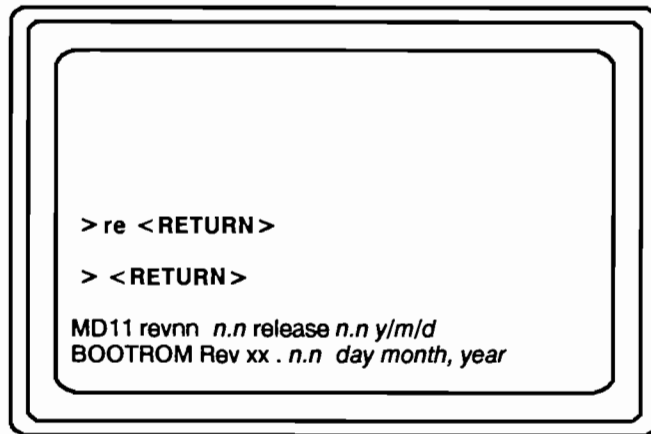

Figure 8-18. Resetting the MD
1. Reset the MD as shown in Figure 8-18. The system now displays the revision date of the CPU PROM.